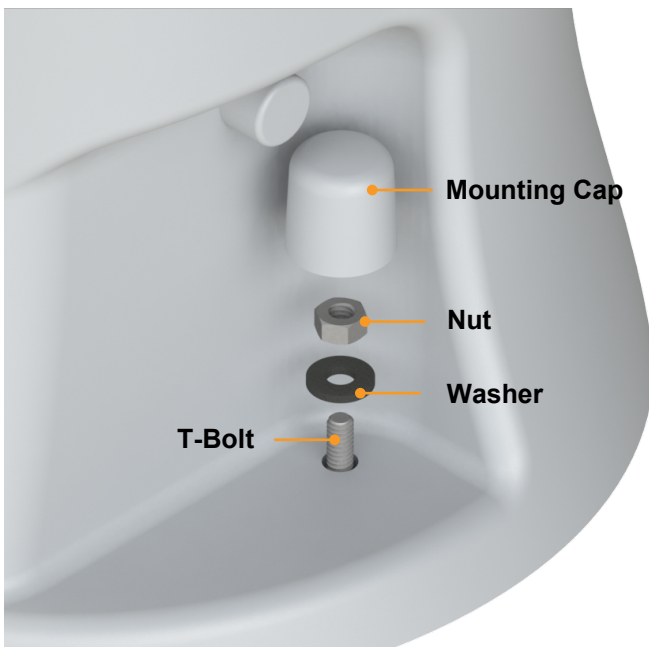

Fig.4
5. Place the new floor mounting washers and then the new floor mounting nuts onto the floor mounting T-bolts (Fig. 4).